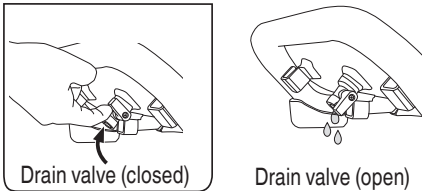

Fig. 15
#### **To drain the tank: (Fig. 15)**
- Open the drain valve located at the lower part of the tank (Fig. 15). Tank pressure should be below 10 psi when draining the tank.